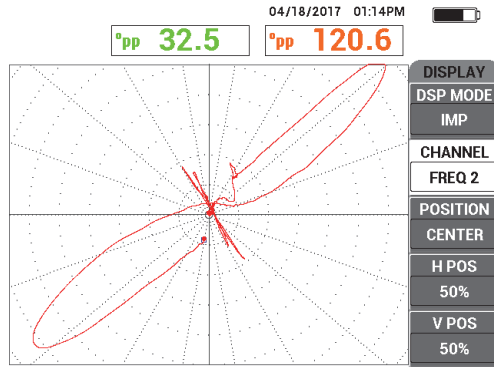

Figure 5-199 The scan of the entire length of the tube
4. Scan the entire length of the tube, and press the FREEZE key (❄) when done (see Figure 5-199 on page 270).